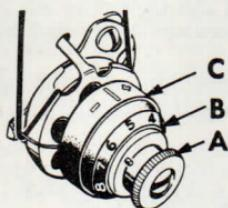

FIG. 38.
Machines 99K, 185K, 201K, 327K, 328K and 329K are furnished with a tension indicator and flange (C and B, Fig. 38). The index flange (B) is marked with numbers 0 to 9 indicating the different degrees of tension that can be produced.